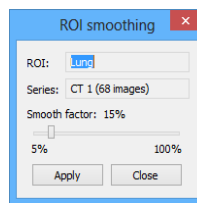

Figure 236 – ROI smoothing dialog
2. The **ROI Smoothing** dialog is then displayed (see Figure 236).